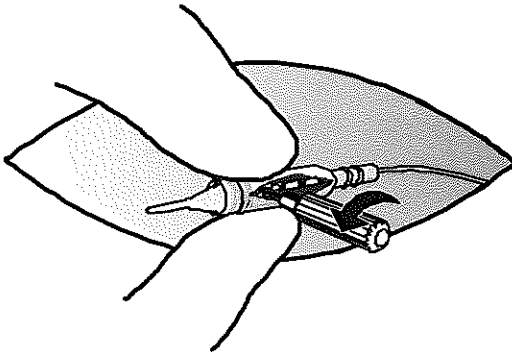

Figure 36: Loosen setscrew.
6. Using the hex wrench, loosen the setscrew in the setscrew connector by turning the wrench counterclockwise (approximately one turn) (Figure 36).